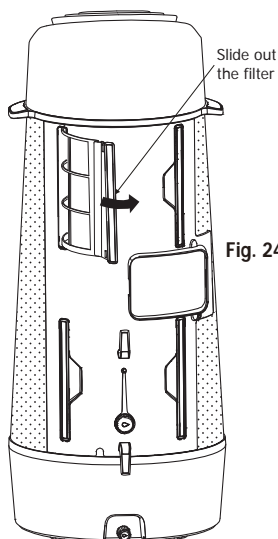

Fig. 24
- This unit has four filters, they are located on the back of the unit. Grasp the filters tab and pull off the filters one by one (Fig.24).